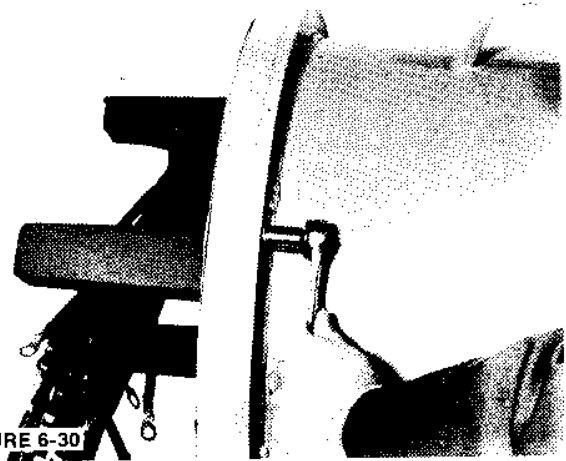

FIGURE 6-30
1. Remove front bracket mounting screws. (Figure 6-30.)